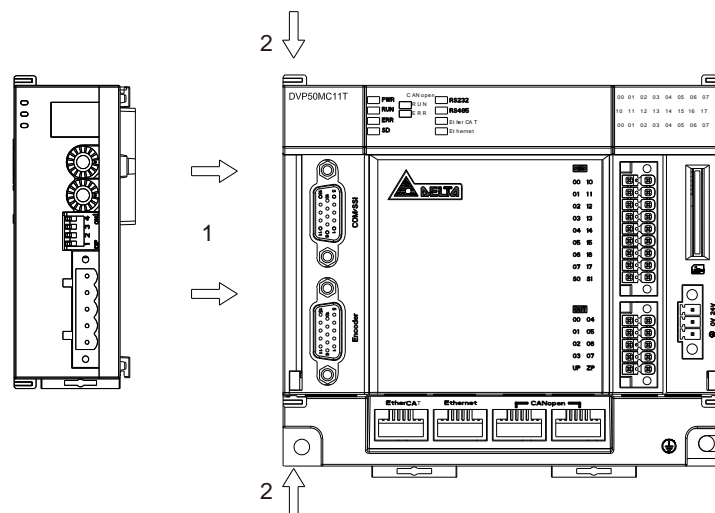

Figure 5.1.3.1
- Pull open the extension module clips on the top left and bottom left of the motion controller and install DVPDNET-SL along four mounting holes in the four angles of the motion controller as step 1 in figure 5.1.3.1.
- Press the clips respectively on the top left and bottom left of the motion controller to fix the module tightly and ensure that their contact is normal as step 2 in figure 5.1.3.1.